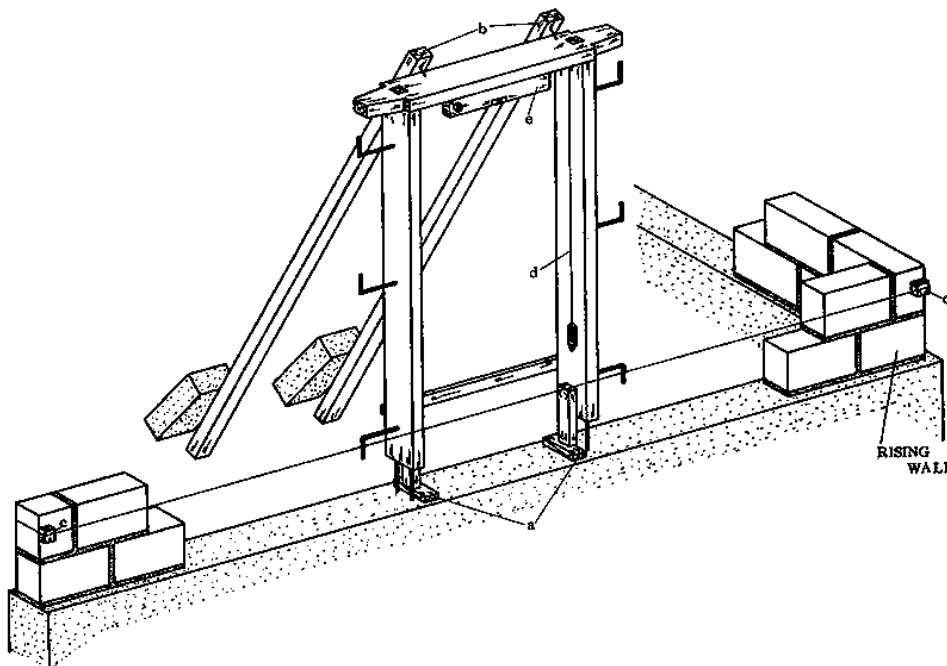
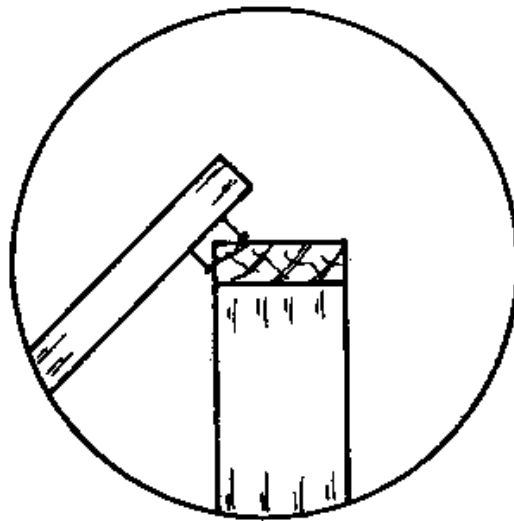

Fig. 1
Fig. 2
- Cut and nail the other squaring strip diagonally from the head to the post (Fig. 1, last
j. Nail wooden spacers into the inside of the rebate. These keep the frame at the correct height during the building operations (Figs. 1 & 2, page 70).
- SETTING FRAMES DURING MASONRY CONSTRUCTION: The first frames to be set are those of the outside walls. When the masonry work has been built to floor level, the door frame is placed in position according to plan and at the correct height, and held there by means of struts (Fig. 1, a, next page).
secured with two nails (Fig. 1, b, and Fig. 2, next page).
The masonry line is used to align the frame with the face of the wall. The line is fixed at the two corners of the wall and two small wooden blocks are used to hold the line out from the wall by the same amount as the thickness of the future render layer; so that the line shows the position of the face of the render on the finished building (Fig. 1, c, next page).
Because the posts are long, the plumb bob is the best tool for making sure that the frames are straight and upright. Hold the bob at the inside top of the frame, so it has room to swing freely (Fig. 1, d). Check both posts (Reference Book, page 5)